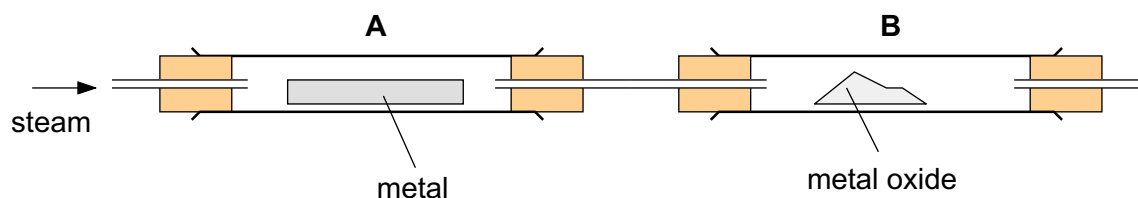

Fig. 5.1
- 5 The apparatus in Fig. 5.1 can be used to show how a metal reacts when heated in steam in tube **A** and how the gas produced can reduce a metallic oxide placed in tube **B**.